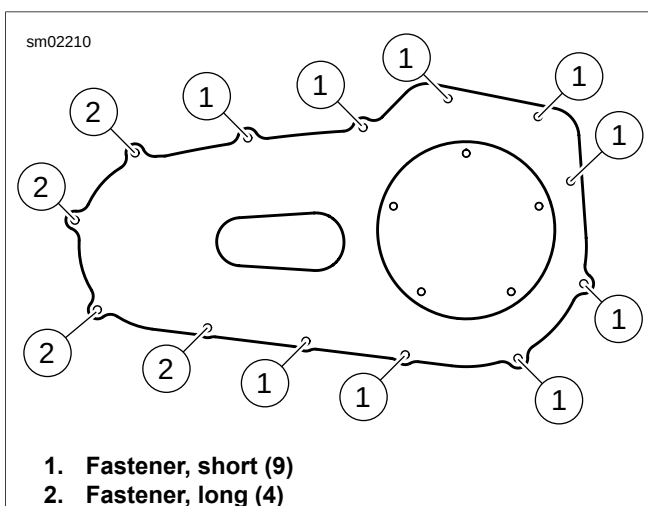

Figure 5-1. Primary Chaincase Cover and Fasteners
4. See Figure 5-1. When lubricant has drained, remove short (1) and long (2) fasteners and primary chaincase cover.
2. See Figure 5-1. Apply a drop of LOCTITE 243 MEDIUM STRENGTH THREADLOCKER AND SEALANT (blue) to each primary cover fastener. Install short (1) and long (2) primary cover fasteners in positions shown. Snug fasteners.